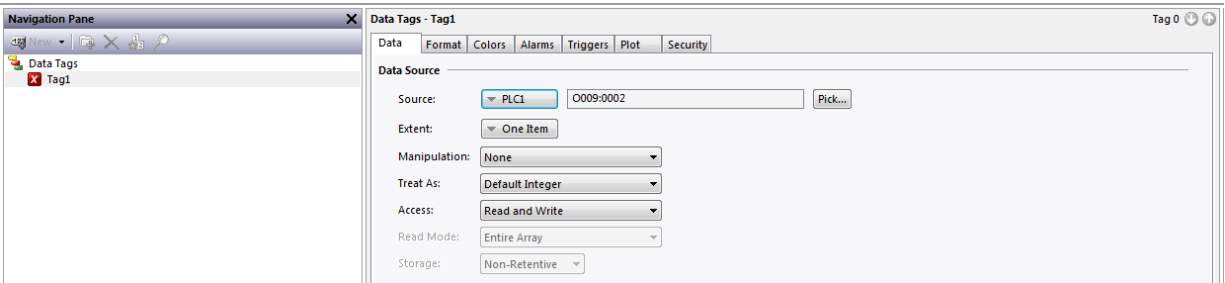

Figure 6.
- To map a tag to the output above (O:9.2 in RSLogix 500) in Crimson, you would map a tag to O009:0002 as shown in Figure 6.